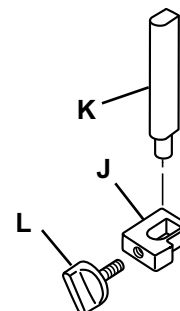

Figure 3
4. Assemble depth stop by sliding depth stop collar (**J**) onto the depth stop carriage (**K**) from the bottom with the round side of the collar matching the round side of the carriage. Secure the collar by screwing the depth stop adjustment knob (**L**) in the threaded hole. See Figure 3.